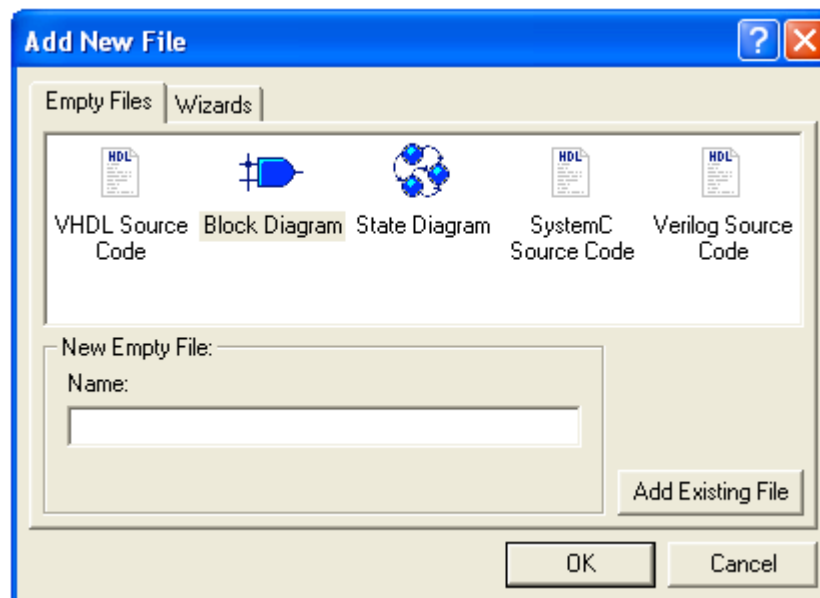

Figure 8
2. Click the Empty Files tab in the Add New File window. Select the Block Diagram icon, type in a descriptive name, and then click the OK button (Figure 8).